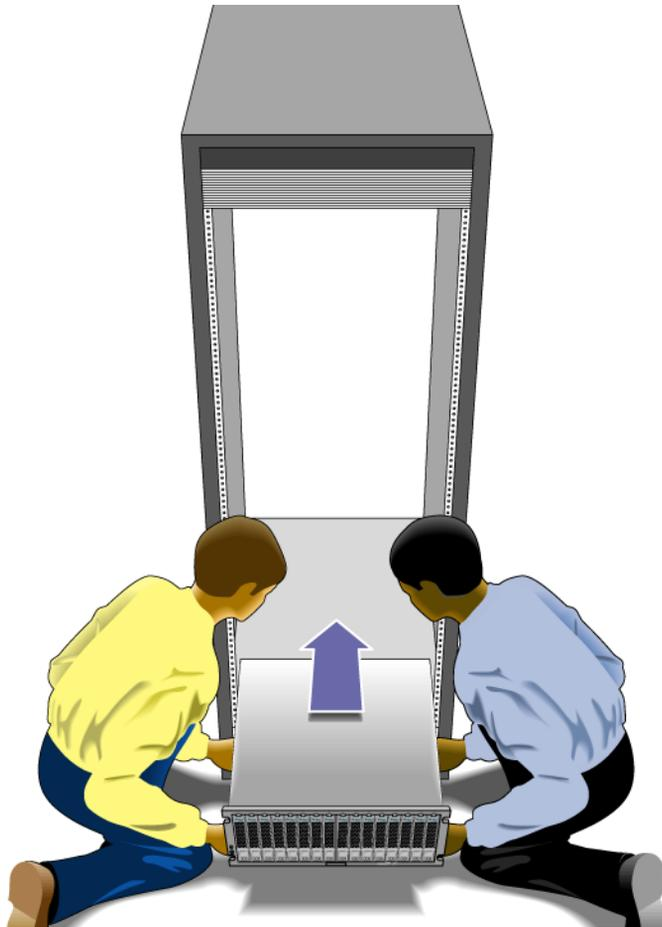

FIGURE 2-8 Positioning the Unit in the Cabinet
1. Using two people, one at each side of the unit, carefully lift and rest the unit on the bottom ledge of the left and right rails (FIGURE 2-8).